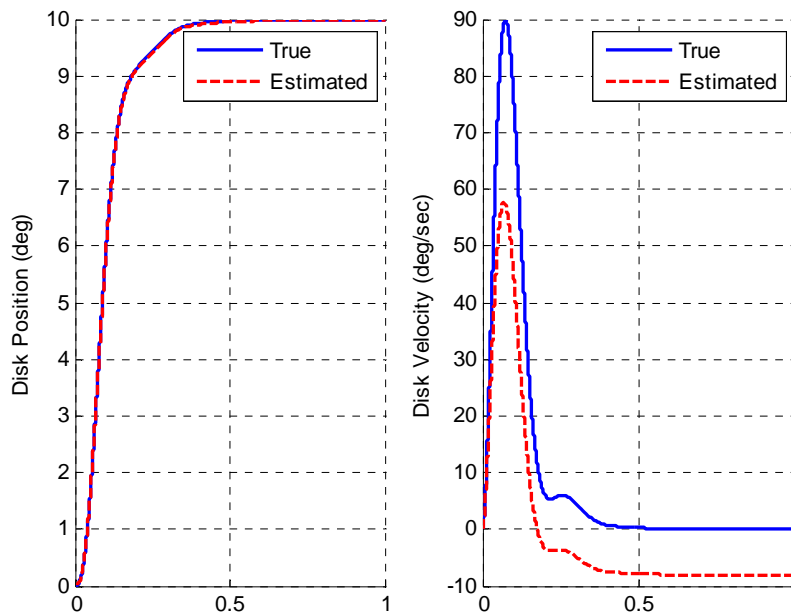

Figure 20. Full order observer with integrator and bad data (problem 5d).
d) Now change the observer poles so they are 10 larger than before ($10*po$). You should get results like those in Figure 20.